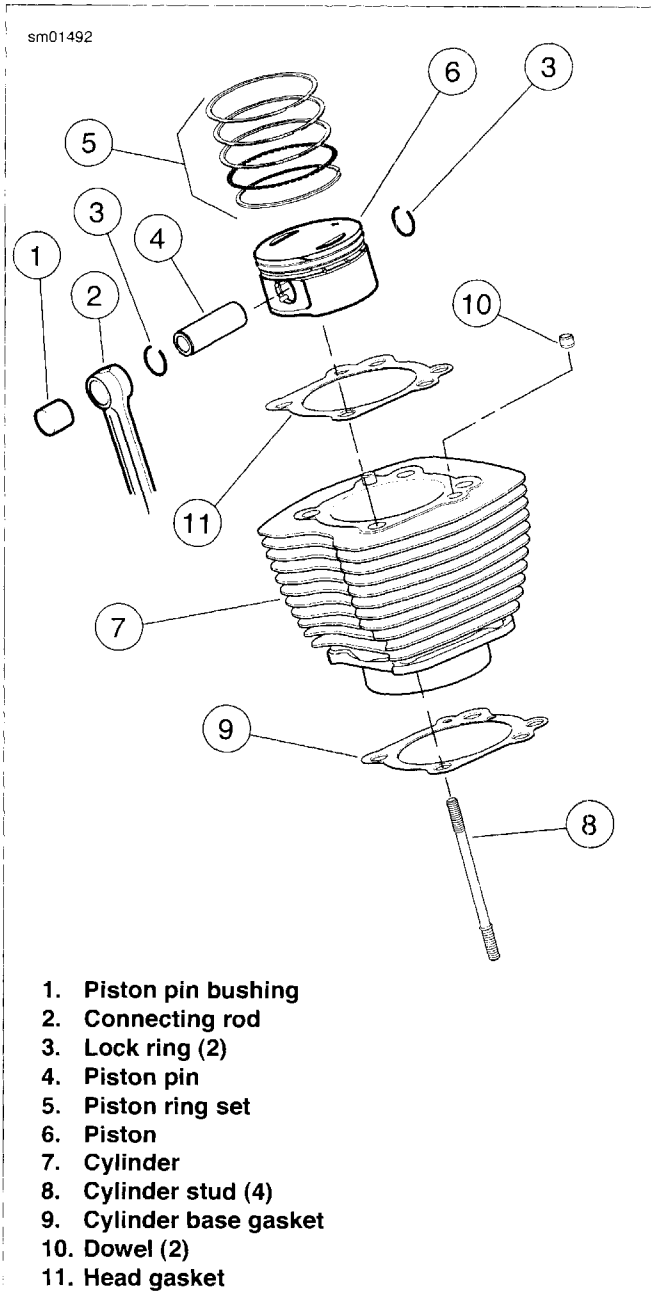

Figure 3-50. Cylinder and Piston
- See Figure 3-50. Clean crankcase around base of cylinder (7) to prevent dirt and debris from entering crankcase while removing cylinder.